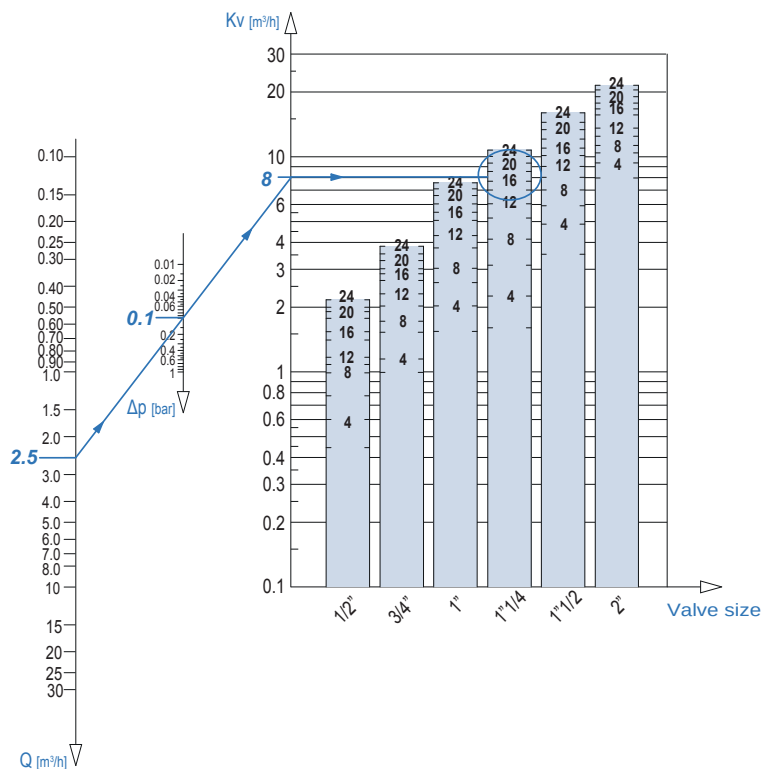

Fig. 12 Sizing diagram, showing the worked example from steps A to D
Use the sizing diagram (Fig. 12) to select the correct valve size. Steps A to D of the Guide to sizing (Fig. 11) explain how to use it.
1. Using the blue graduated knob (Fig. 2), set the valve to the setting for the required flow rate, taken from the sizing diagram (Fig. 12) or the head loss diagrams.
The valve is designed to perform best within the operating range shown in Fig. 12. To size the valve: